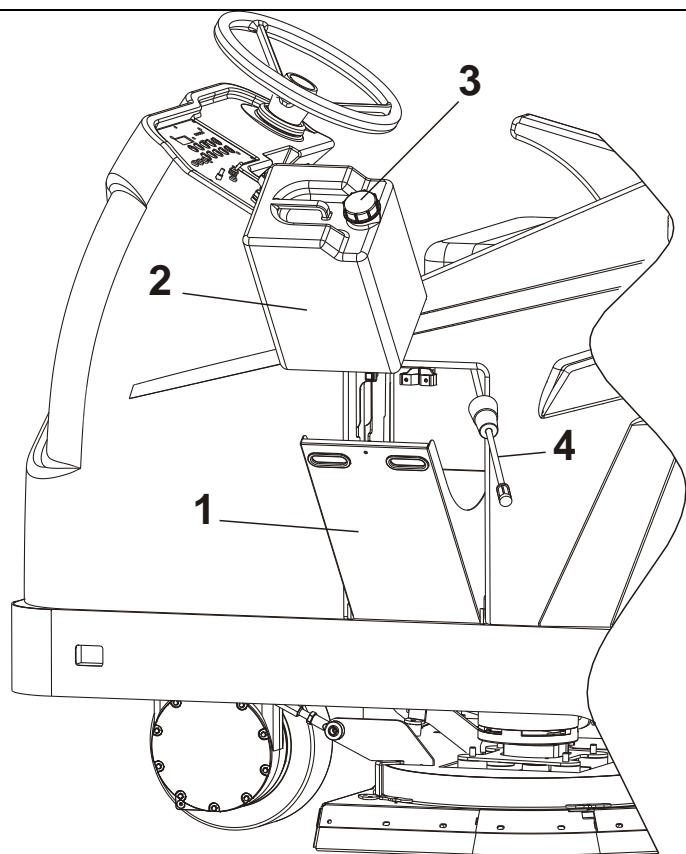

FIG. 1
Fit the can (pos. 2) as indicated in FIG.1. While performing this operation, do not remove the cap (pos. 3) of the can to prevent detergent coming out. **Use low-foam liquid detergents or use a foam reducing product. Do not use inflammable liquids.**